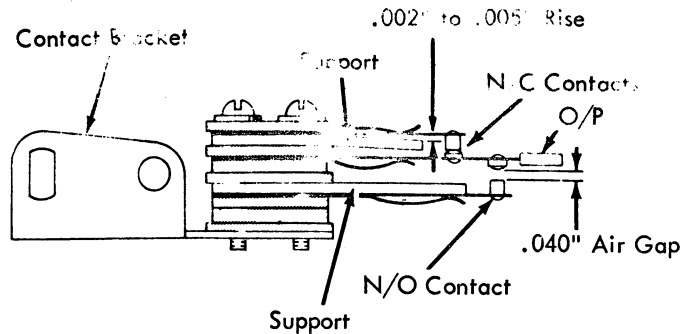

FIGURE 63. Mode Contact
10. **Keyboard Mode Contacts** - Form the N/C support so that the O/P lifts the N/C contact by .002" to .005" (Fig. 63).
11. Form the N/O support so that the N/O contact clears the O/P by .001" (Fig. 63).